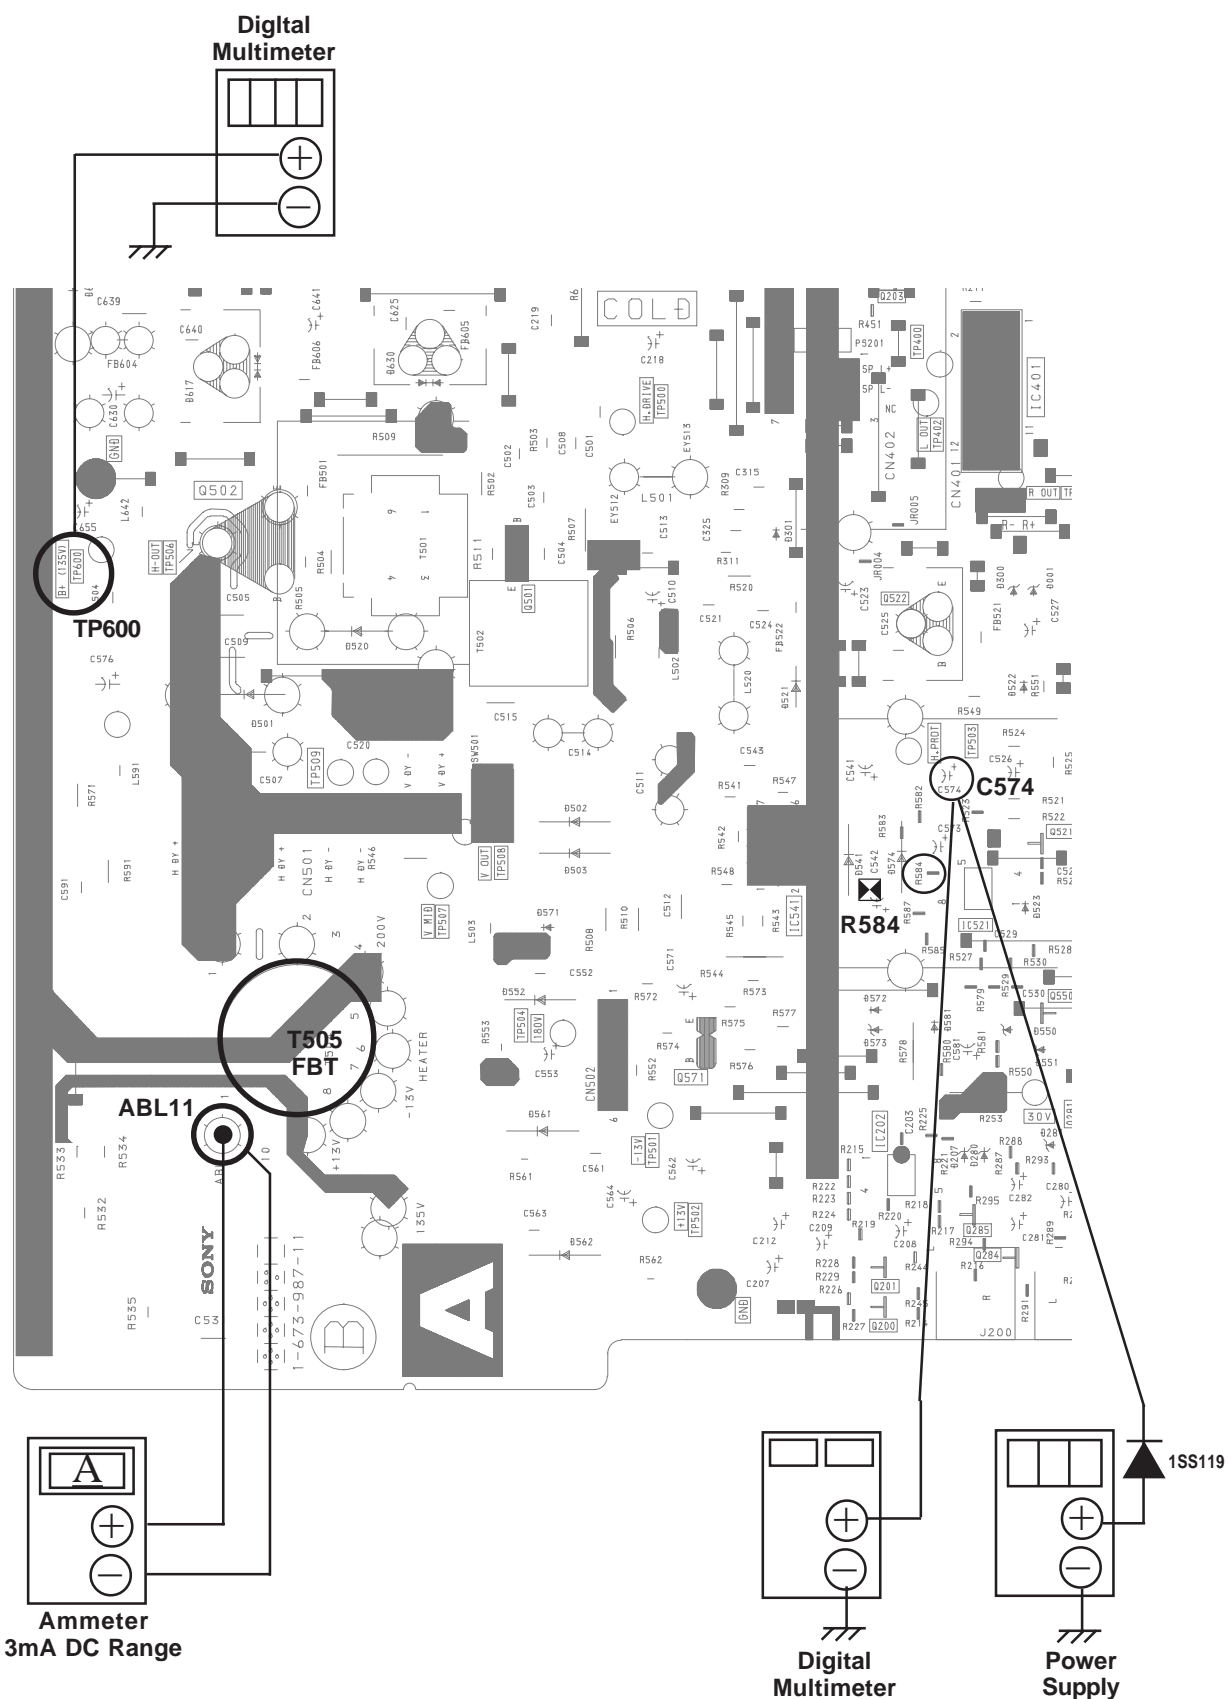

Figure 1
1. Connect the current meter between Pin 11 of the FBT (T505) and the PWB land where Pin 11 would normally attach. (See Figure 1 on the next page.)
4. Connect the digital voltmeter and the DC power supply via diode 1SS119 to C574 (+) and ground. (See Figure 1 on the next page.)